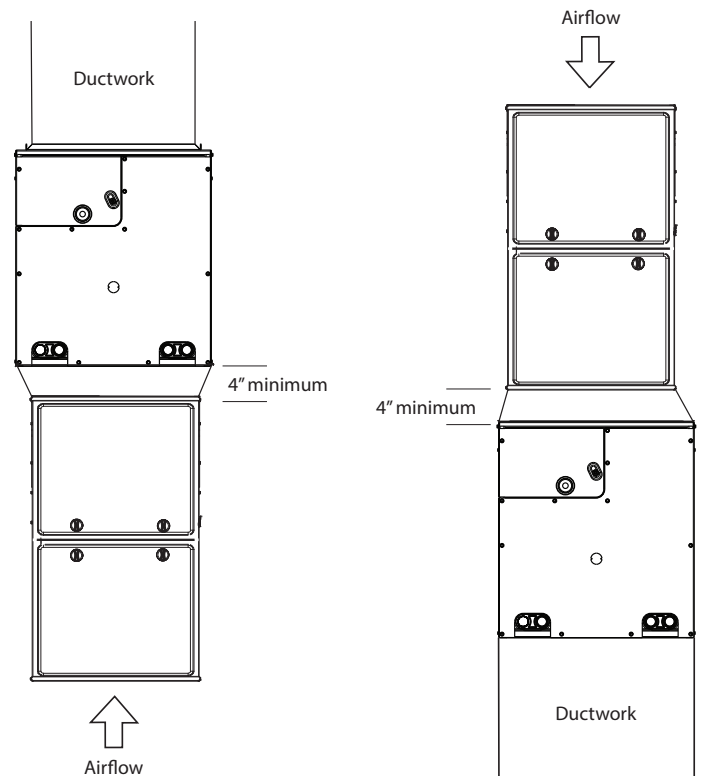

Fig. 2 – Adapter(s) Installation When Coil Overhangs Furnace
3. When installing wider coil on narrow furnace, create field fabricated adapter (see Fig. 2).